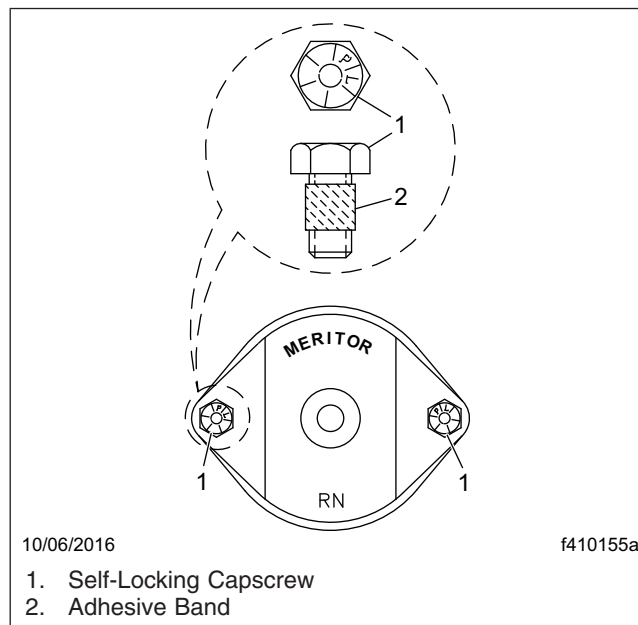

Fig. 1, Meritor U-Joint Fasteners for Bearing Caps
2. For driveline universal joints with bearing caps, tighten bearing-cap capscrews 43 lbf-ft (49 N-m). See Fig. 1, item 1.